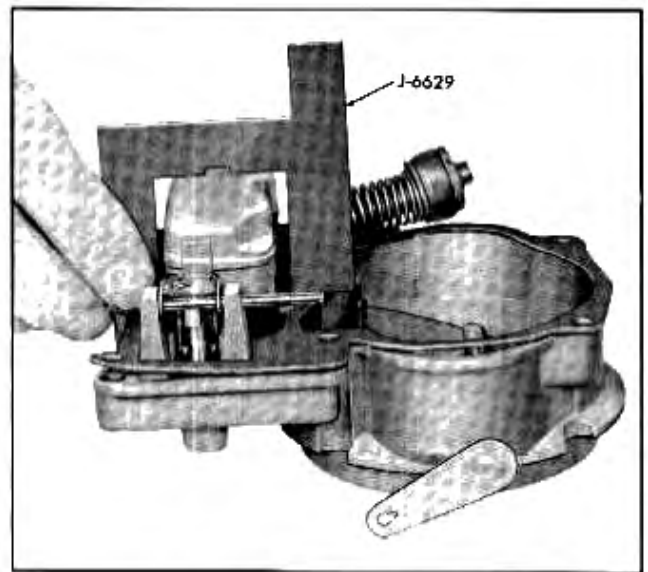

Fig. 6B-25 Checking Float Level
2. Replace pump outer lever and shaft assembly and inner lever (Fig. 6B-24).